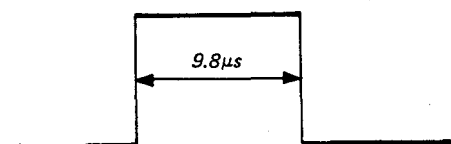

Fig. 23-2
6. Adjust RV1 on the DA board so that the H. BLK pulse width is $9.8\mu\text{s}$. Fig. 23-2.